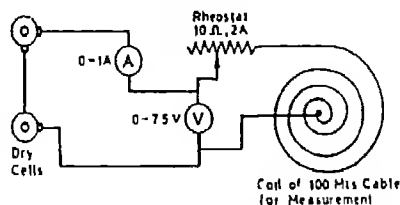

Fig. 13.1 Measurement of Cable Resistance
- (iii) For measurement of resistance of wire/ cable coil, make connections as shows in Fig 13.1 Control the current by using rheostat so that volt-ammeter readings are clear and near to full scale deflection. Observe and record the readings.